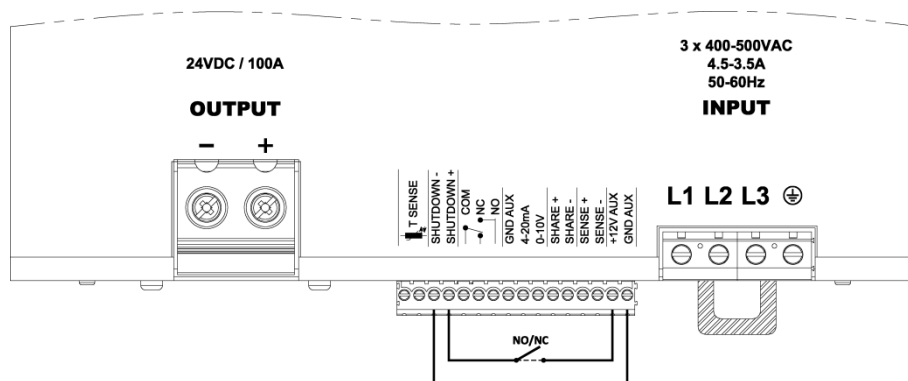

Figure 15 Remote shutdown input connection by using the AUX power supply
- External switch or relay contact:** by connecting an external switch or relay contact as indicated in Figure 15 the NPS2400 output can be switched ON or OFF by only acting on the switch or relay contact.